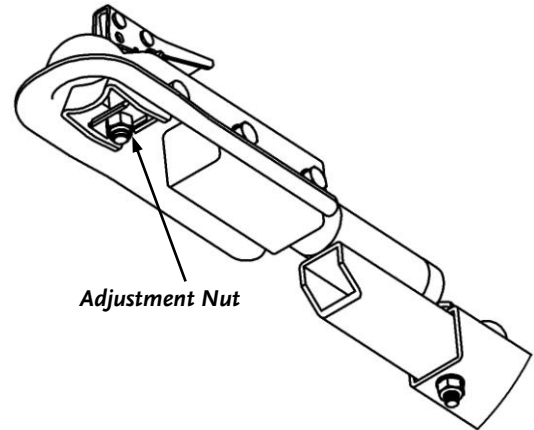

Figure 58
3. Locate the Adjustment Nut on the underside of the Hitch (**Figure 58**). Using a 19mm Socket, or Wrench, rotate the Nut clockwise to tighten and counterclockwise to loosen.